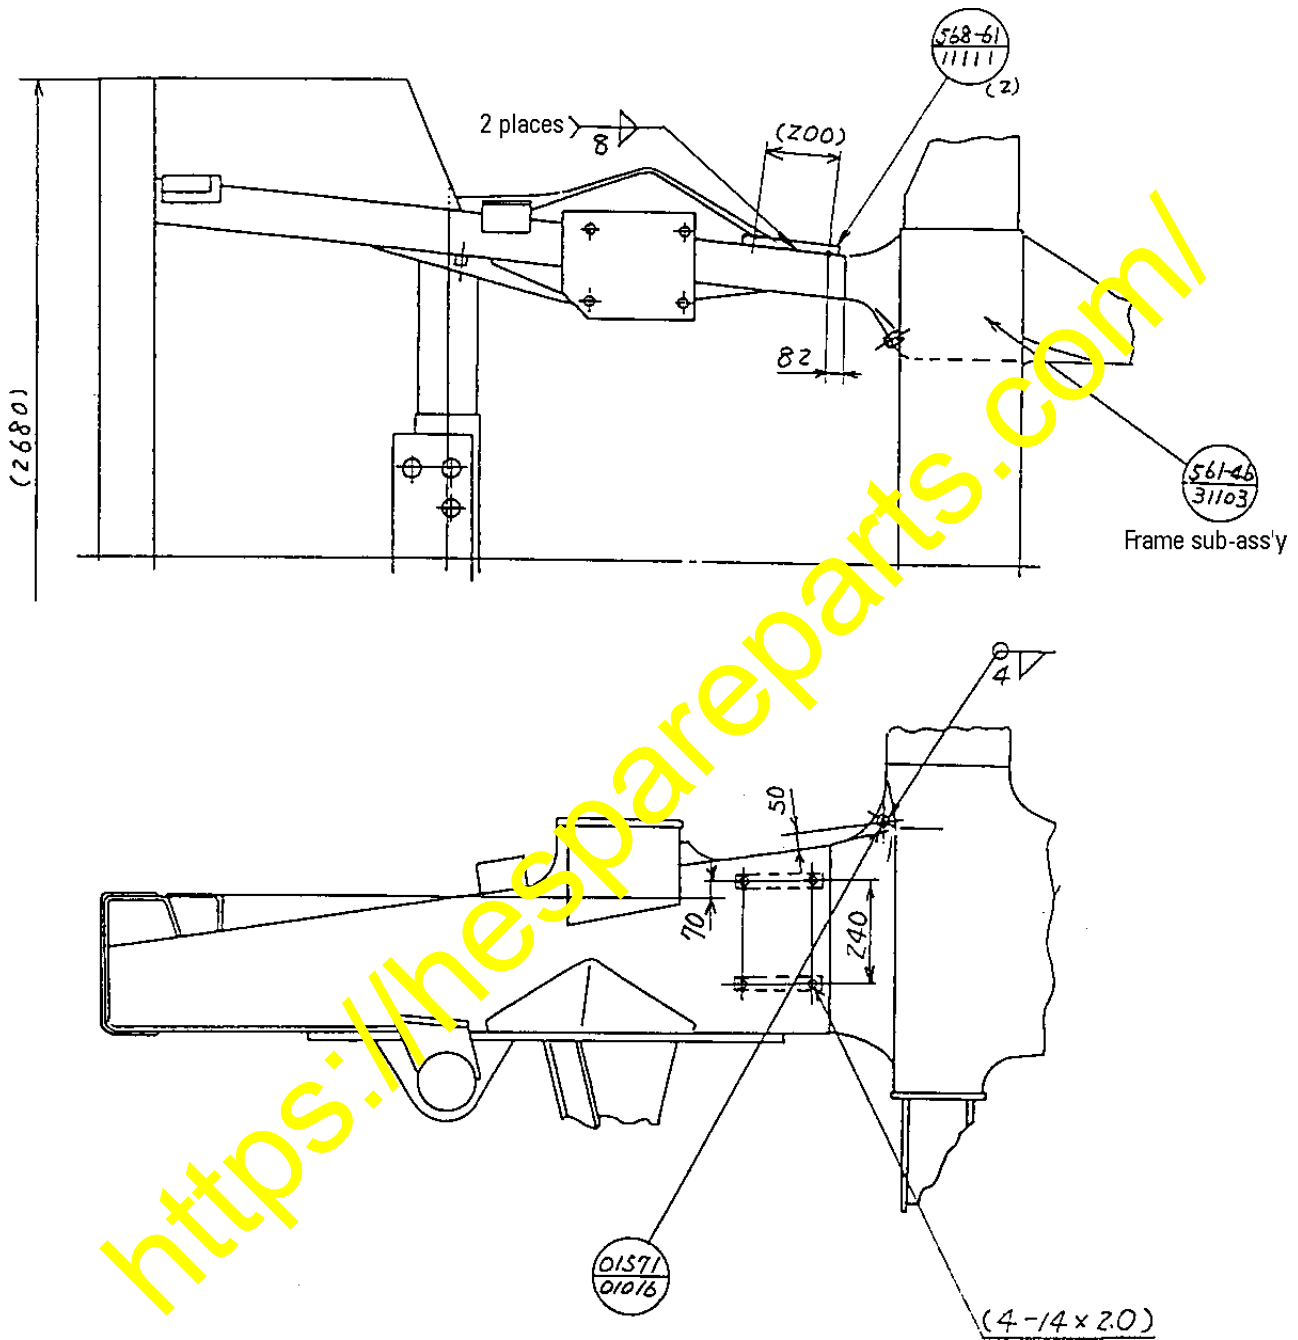

Fig. 16
- (3) Weld a SEAT (01571-01016) (28) and two SEATS (568-16-11111) (29) to FRAME (561-46-31103). (See Fig. 16)